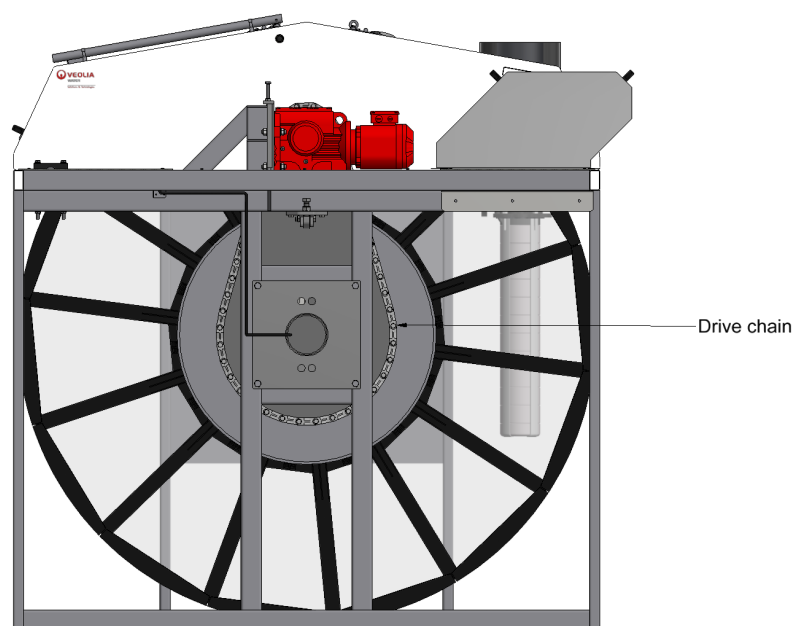

Figure 7.15 Checking chain adjustment.
1. Turn the main power switch to OFF (0) and lock with a padlock.
4. Check the tension of the chain's return section; it must be possible to move it between 25-50 mm, see Figure 7.15.